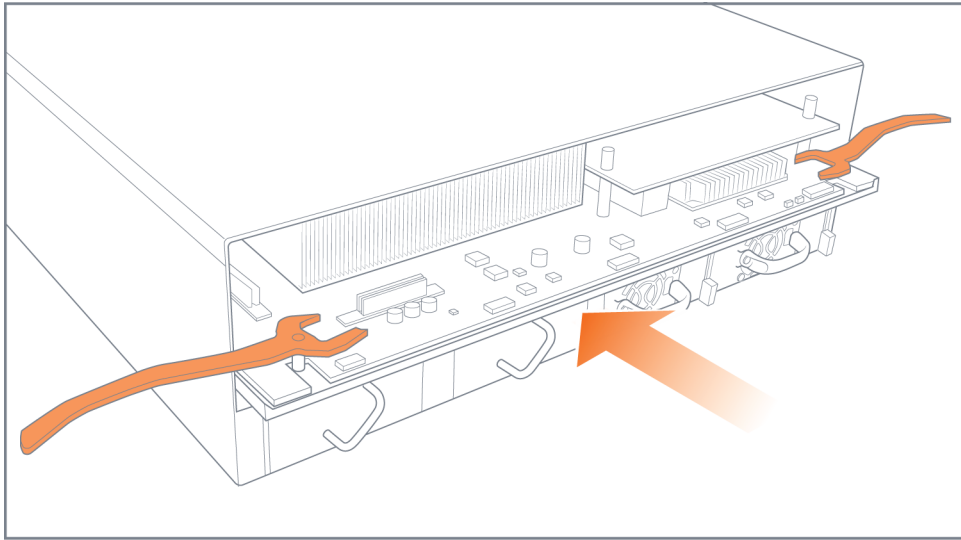

Figure 4-20: Control Card Insertion
1. Push the control card into the chassis. Refer to Figure 4-20 on page 85.